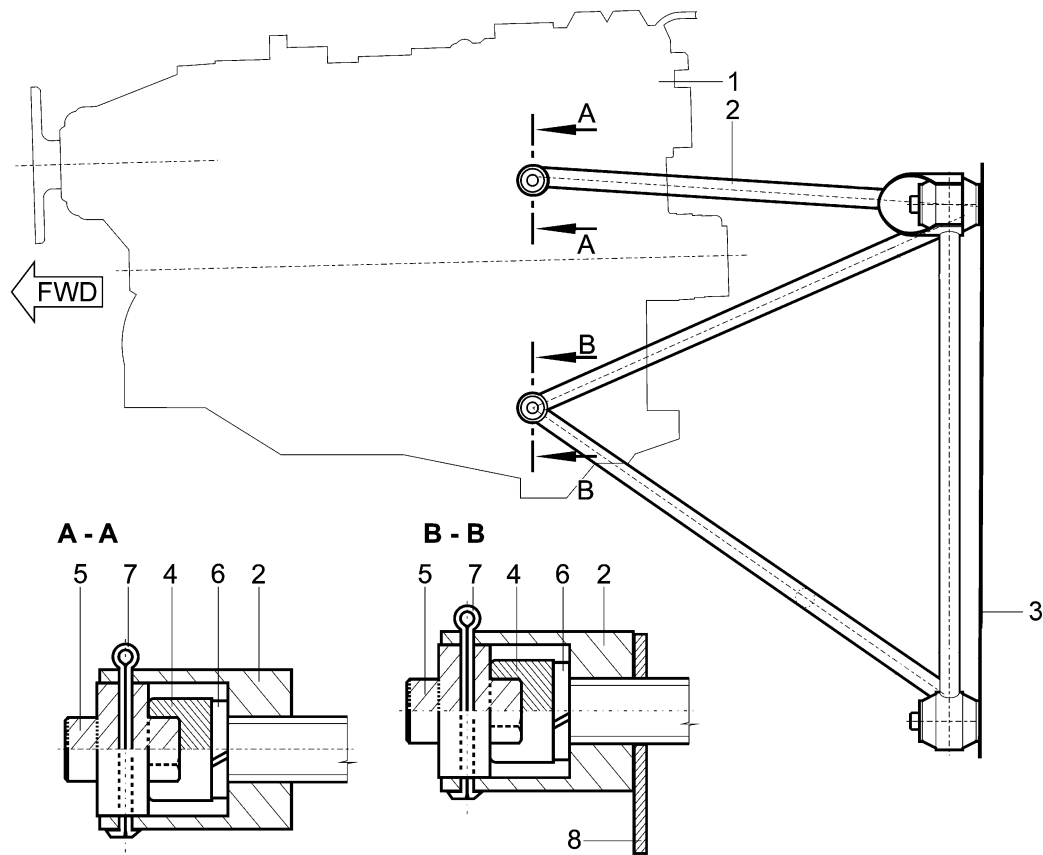

Fig. 3 – Engine suspension
- 1.3.1.9 Remove the cotter pins and plugs (5, 7, Fig. 3) from the bolts (1, 2, 3, 4, Fig. 2) in the joint of the engine and the engine mount hinges.
- 1.3.1.15 Put the plugs (5, Fig.3) on the bolts (4), (1, 2, 3, 4, Fig.2).
- 1.3.1.16 Mark the plugs (5, Fig. 3) with a marking pin in accordance with the holes in the engine mount hinges (2) on both sides.
- 1.3.1.24 Refill operating fluids (coolant, oil) if they were drained while accessing the bolts of the engine mount hinges (4, Fig. 3) cowlings in accordance with the procedure specified in the Airplane Maintenance Manual for SportStar RTC (Doc. No. ERTC021-10-AS), Section 12.
Legend to Fig. 3